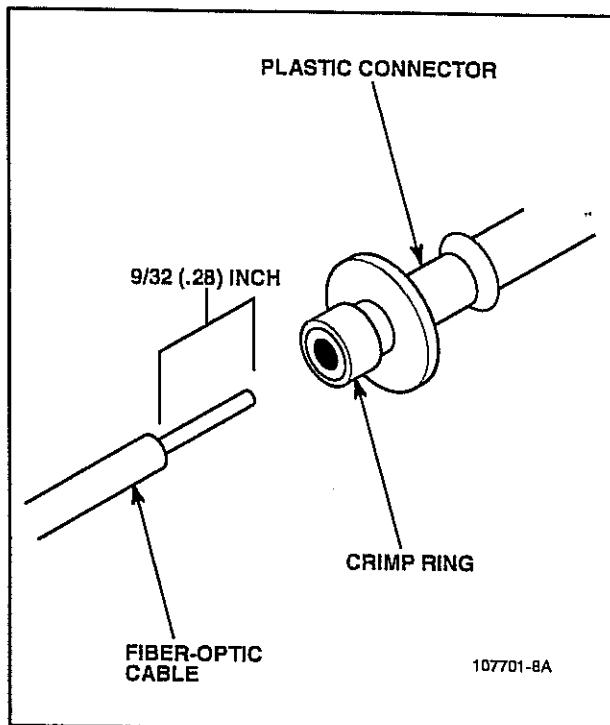

Figure 5-54. Insert Cable into Connector.
2. After cutting the cable to the desired length, strip off approximately 9/32 (0.28) inch of the outer jacket with the 16-gauge wire strippers, as shown in Figure 5-54.